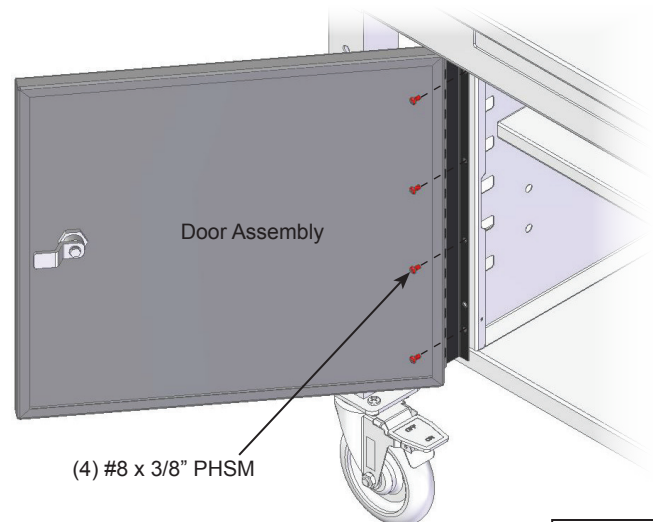

Figure 3
1. Carefully flip the cart back upright. **Figure 3.**
2. Align the door assembly hinge with the mounting holes in the cabinet and attach with (4) #8 x 3/8" PHSM screws. Tighten securely.